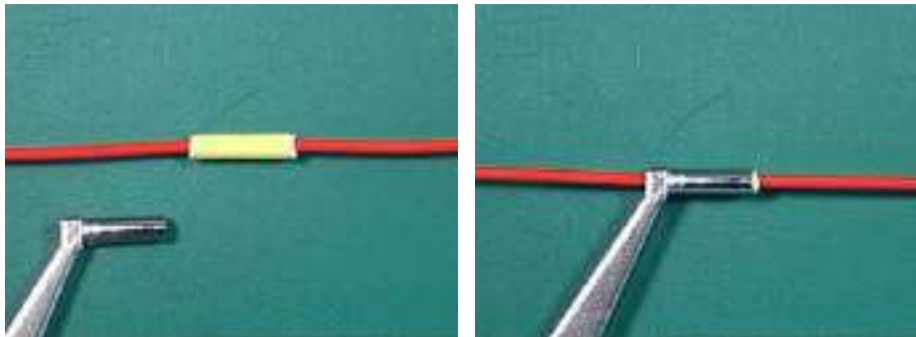

Figure 161
3. Apply light hand pressure on the SEIDRS insulation sleeve using the appropriate Mil spec installation tool, while the sleeve is still hot as shown in Figure 161. Allow a minimum 10 seconds before removing the installation tool.